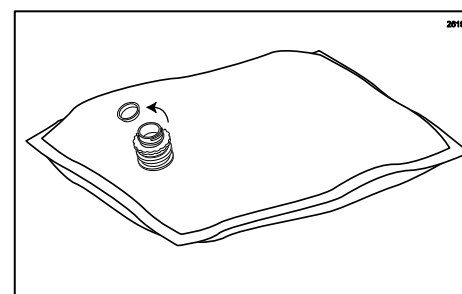

Figure 42
5. Select the flavor you wish to use, then place the bag on the table with the fitment up and remove the dust cap. (See Figure 42.)